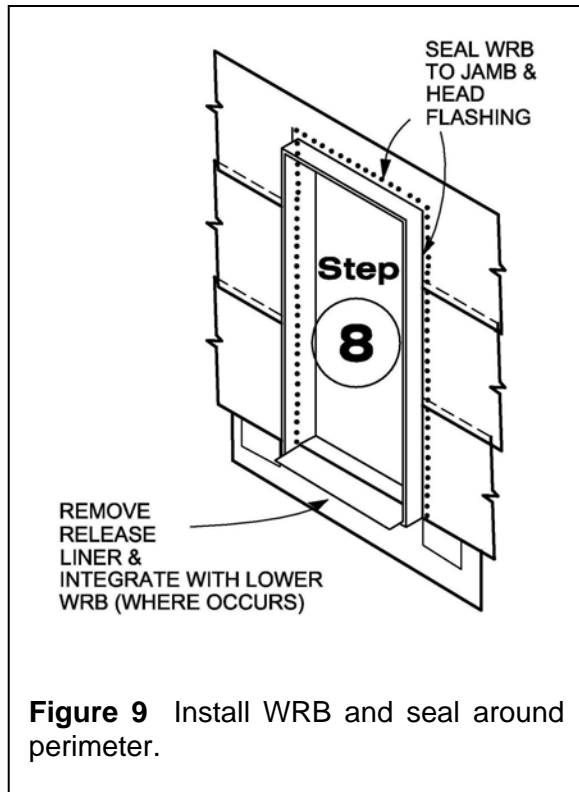

Figure 9 Install WRB and seal around perimeter.
Step 8. Install weather-resistant barrier (WRB) shingle fashion from bottom of wall to top. Insert WRB under Polyken® or Nashua® sill flashing. Peel off remaining release liner from Polyken® or Nashua® sill flashing and adhere to WRB. Seal edges of WRB to Polyken® or Nashua® flashing along the window jamb and head (see Figure 9).